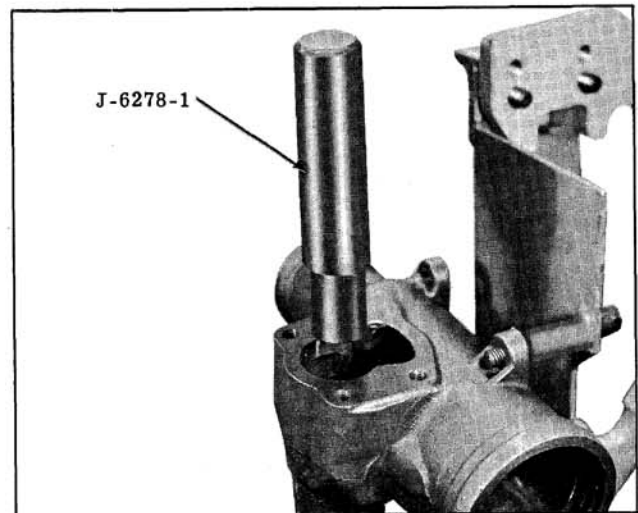

Fig. 8-62 Needle Bearing and Seal Removal
- If pitman shaft needle bearing replacement is necessary, remove the seal retaining ring, outer steel washer, then drive needle bearing, seals and inner washer out with Tool J-6278-1. (Fig. 8-62)